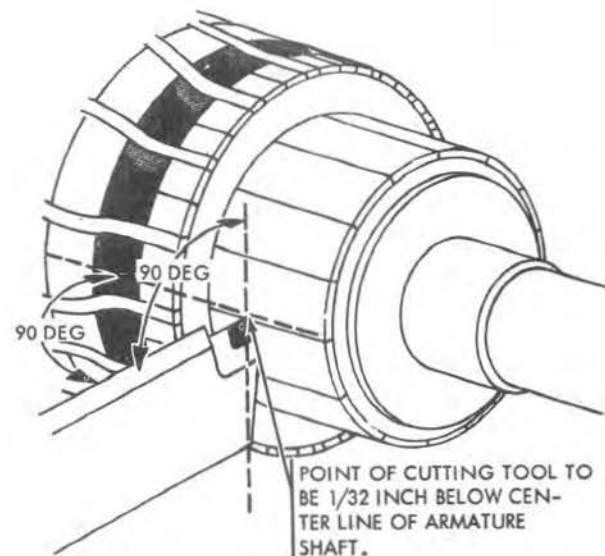
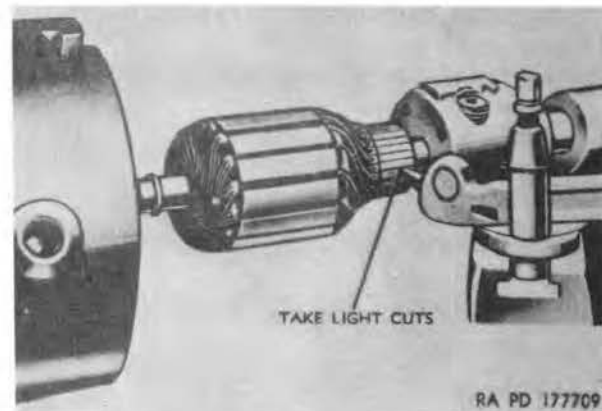

FIGURE 27. PROPER POSITION OF CUTTING TOOL.
FIGURE 28. RECONDITIONING COMMUTATOR.
- (1) If commutator is worn, rough, out-of-round, or has high mica, filled slots, or burned spots, place the armature in a lathe and turn down the commutator. Use a commutator cutting tool sharpened as shown in figure 26. Mount the tool as shown in figure 27. Take a light cut across the entire surface of the commutator, refer to figure 28.